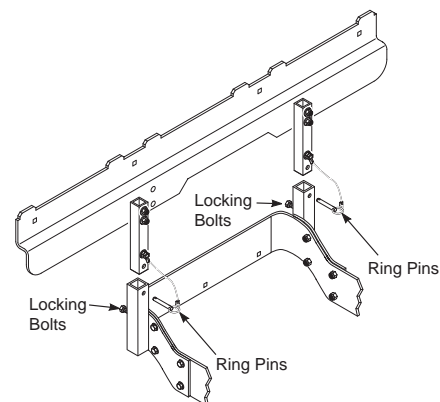

FIGURE 3-7
13. Attach the hood assembly to the machine by installing the mounting post into the hopper mounting brackets. Secure with the ring pins and tighten the locking bolts. See Figure 3-7.